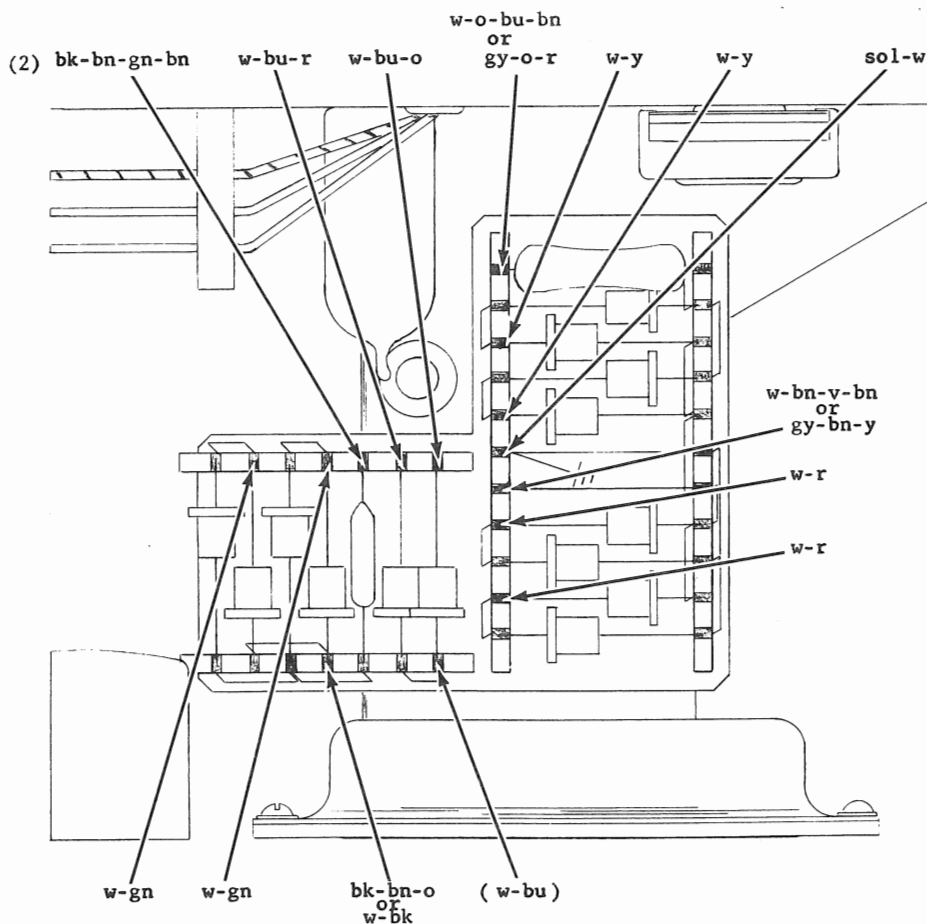

Fig. 1
- () 5. Mount the silicon rectifier bracket in the three holes vacated by SR601, SR630 and SR660 (see Fig. 1). Use the three 8-32 x 1/4 BHS screws from the kit.
- () 9. Solder the wires to the silicon rectifier assembly, as shown in Fig. 1. Trim and dress the wires as necessary.